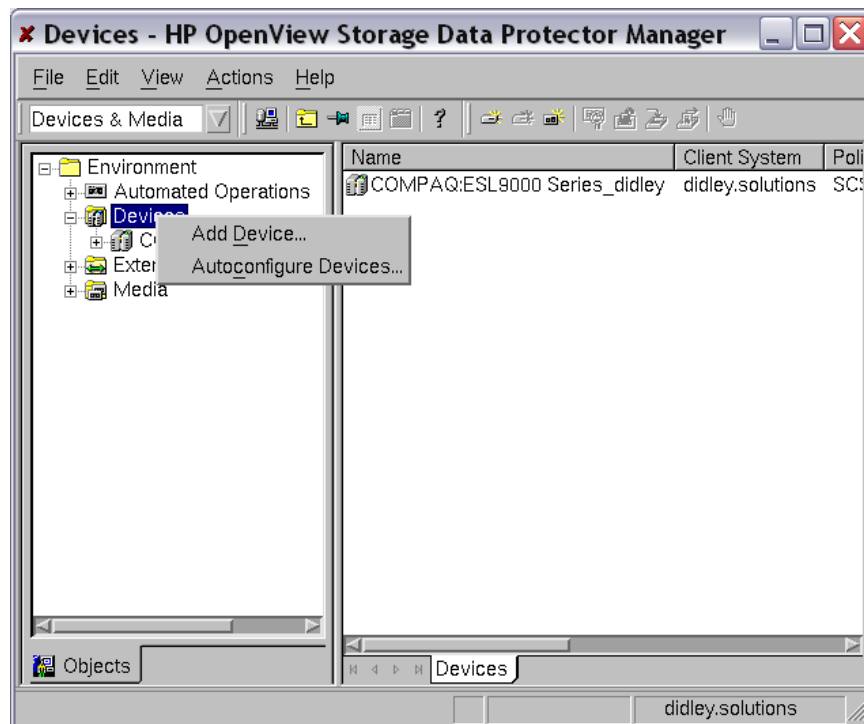

Figure 6: Starting the autoconfiguration wizard
3. Run the *Data Protector* automatic device configuration wizard to set up the library and tape devices if this has not already been completed. Start the wizard by right-clicking **Devices** in the **Devices & Media** window (see Figure 6).